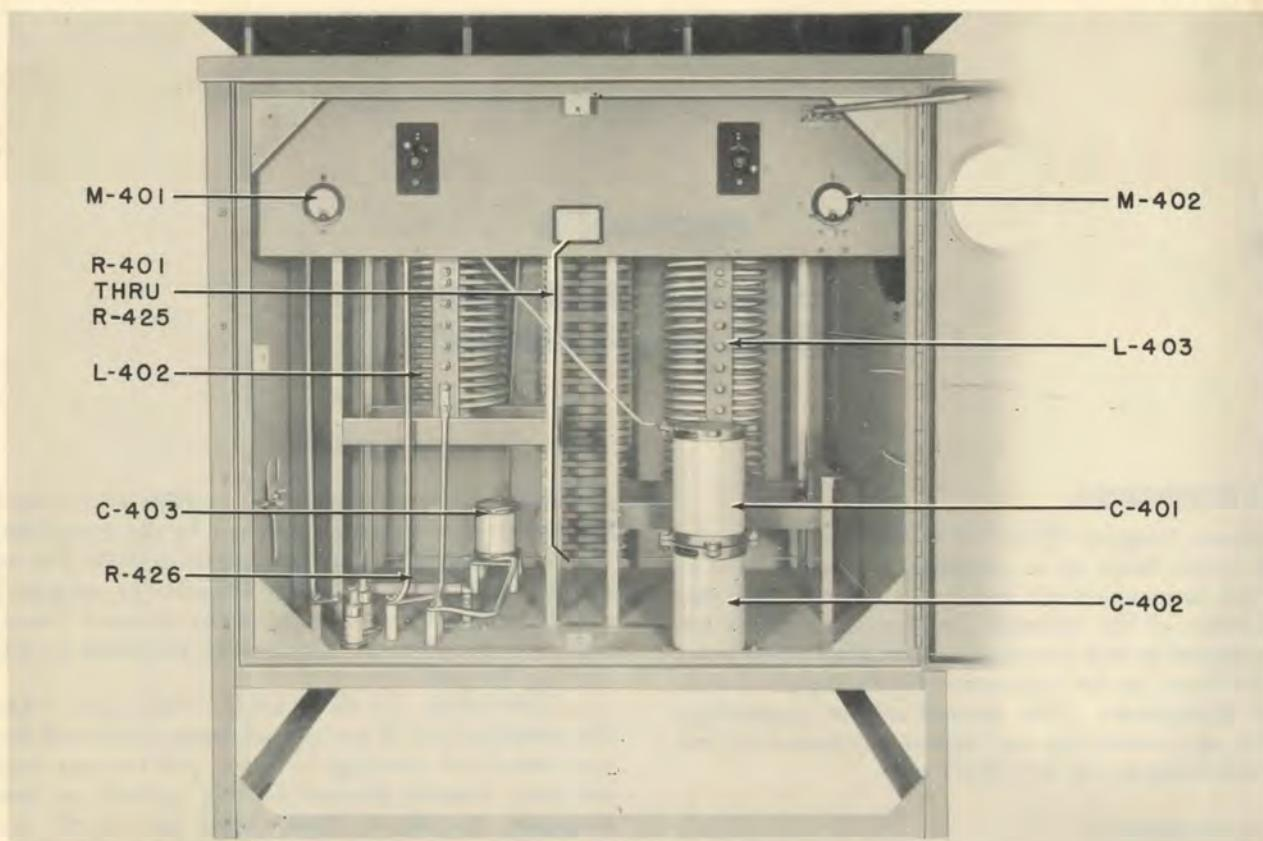

Figure 3-2. Antenna Coupler CU-277/URT, with Door Open
(1) COIL L402.—Coil L402 mounts on the left side of the unit as shown in figure 3-2. Before installing the coil, make certain the rotor arm assembly is free of all securing tape. Turn the "A" tuning crank and check to see that the wiper arm turns freely and smoothly. Allow the wiper arm to hang down until the coil is installed. Install the coil so that the slots in the base of the coil frame line up with the slots in the floor of the unit. Insert the hardware in the slots and finger tighten the nuts. Set the "A" tuning crank to zero. Place the wiper arm on the top loop of the coil. Rotate the crank to its limit, so that the wiper arm covers approximately three turns of the coil. Adjust the position of the coil so that the wiper arm makes good contact throughout all three revolutions. When
(2) COIL L403.—Coil L403 mounts on the right side of the unit as shown in figure 3-2. The mounting procedure for L403 is exactly the same as that given for L402 in the preceding paragraph.
(3) CAPACITORS C401 AND C402.—These two capacitors mount on the floor of the cabinet as shown in figure 3-2. Position them over the holes in the floor and secure them in place with the hardware provided. Make certain the ground strap is secured under the rear mounting screw of C402. Connect copper tubing between C401 and the top of L402.
(4) OUTPUT PRIMARY METERING LOOP.—The output primary metering loop mounts at the top of coil L403 and is fastened to the output bushing. To obtain proper coupling the loop must be mounted vertically. Take particular care not to bend the loop while mounting it.
(5) OUTPUT BUSHING.—To replace the output bushing, position it over the holes in the cabinet. Make certain the collet fits over the end of the output coupling loop inside the unit. When properly positioned, secure it in place with the hardware provided. When the bushing is mounted, tighten the collet nut until the bushing and loop are firmly connected. Do not use excessive pressure when tightening the nut.